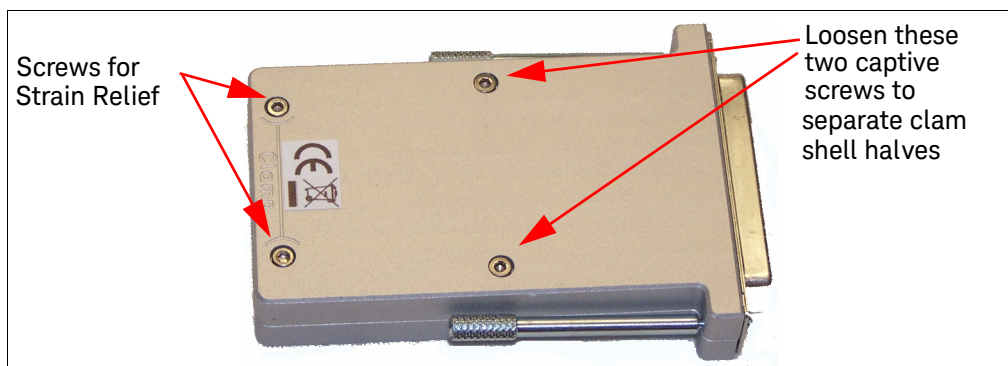

Figure 21 Disassembling the Terminal Block Clam Shell
- 1 Loosen the two screws indicated in Figure 21. These screws are captive to the bottom half of the clam shell. Note: the other two screws are for the strain relief.